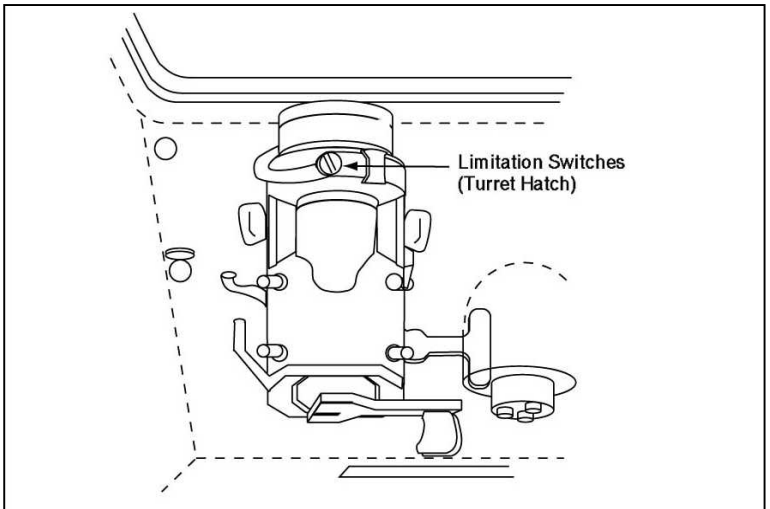

Figure 4-2-9: Limitation Switch (Turret Hatch)
30. **Limitation Switch (Turret Hatch).** A limitation switch (see Figure 4-2-9) is attached to the turret hatch operating mechanism to prevent launching of the smoke grenades when the turret hatch is in the half open and fully open position.